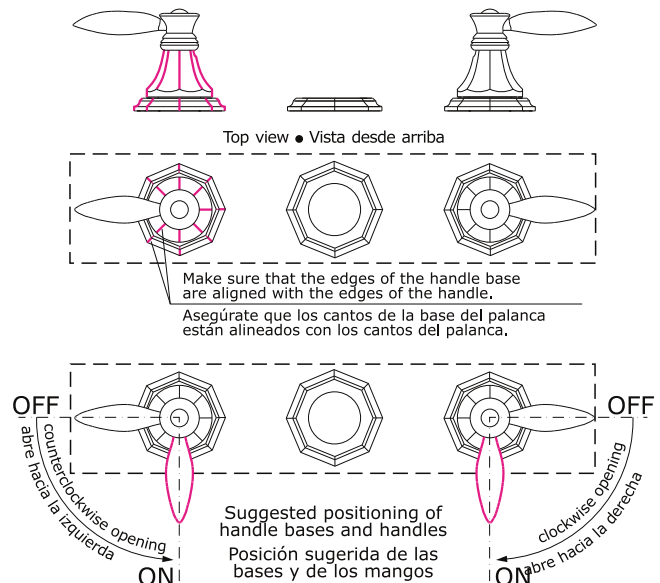

FIG. 2.3
- Put on the handles once again making sure that they are positioned correctly levers should be in the OFF position as shown on the fig. 2.3. Make sure the LEFT handle with (**H**) cap is on the left valve and the RIGHT handle with (**C**) cap in on the right valve. Test the correct position of handles. The handles should open and close in a ¼ turn. Turn handles all the way to OFF position.